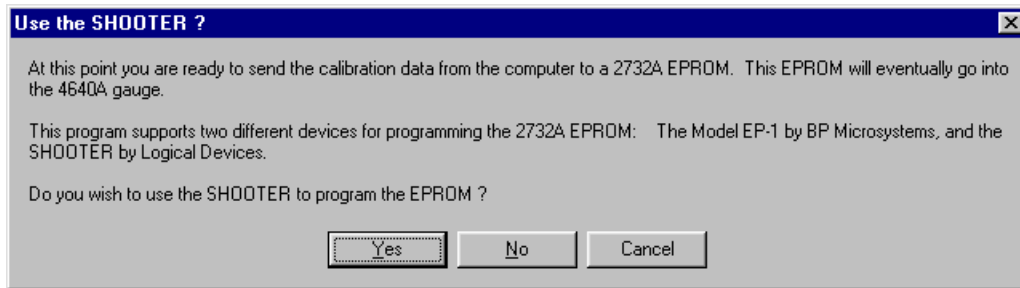

Figure 4–27. EPROM Programmer Selection Prompt
8. After the **<Next>** button has been clicked, the software displays the screen shown in Figure 4–28. This screen allows the user to select the communications port to which the Shooter is connected, as well as the baud rate to which the Shooter has been set. Confirm (and change, if necessary) these settings and click the **<Select>** button.